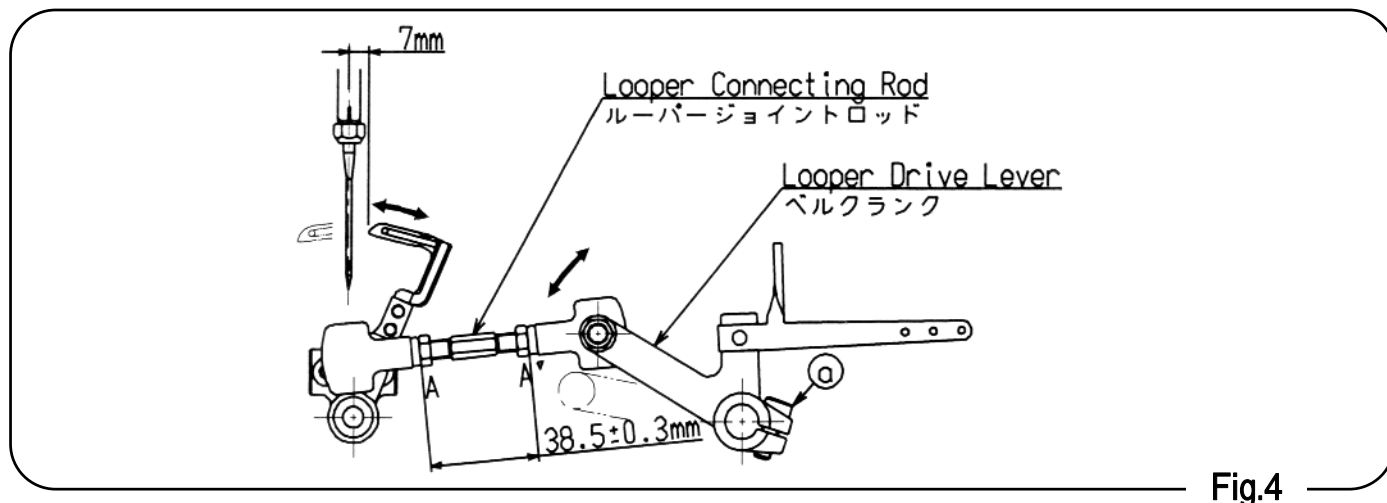
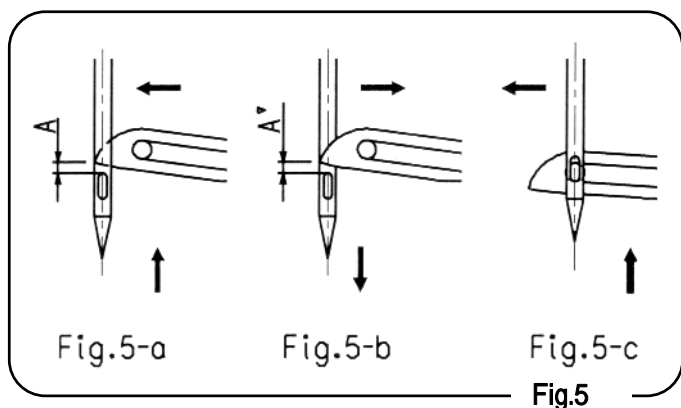
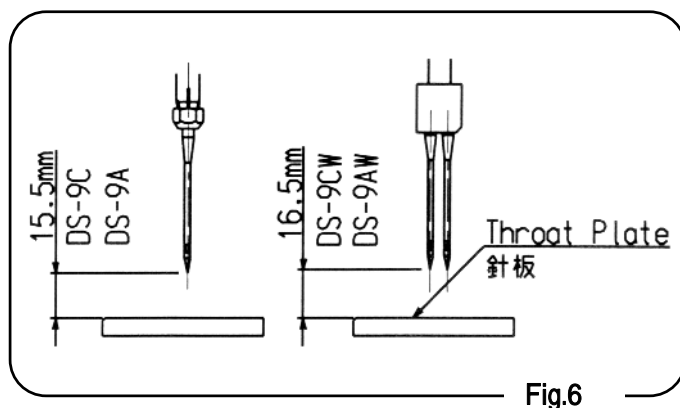

Fig.4
Fig.5
Fig.6
Presser foot pressure must be adjusted according to the material of bag and thickness. Check the reverse side of seams. The pressure is too strong if seams show a sign of scratches by feed dog teeth, or the actual stitch length is shorter than the preset feed rate of feed dog teeth. In this case, unscrew plate spring adjust screw(102171),Figure 4, after loosening nut (5/16N24301). Be sure to tighten the nut after the adjustment. If the pressure is too weak, seams do not form a straight line, or the stitch length is irregular. In this case, increase the pressure by screwing the plate spring adjust screw. Decrease the pressure when closing jute and other heavy bag material, and increase it when closing PP woven cloth and other light bag material. Your machine is adjusted for 3-ply kraft paper bags at the factory.
Turn the pulley in the forward direction and adjust the bell crank so that the end of the looper is 7mm away from the needle center when the needle is in the most retracted position, as shown in (Fig.4). The distance between the nut (outside) of Looper Connecting Rod must be $38.5 \pm 0.3\text{mm}$. (Fig.4)
Needle and looper movements are correctly timed if distance (A and A' of Fig.4) between Looper point and Needle hole when Looper points gets in line with left-side edge of Needle is the same as Looper passes Needle in forward and backward movements. $A=A' \pm 0.3\text{mm}$ is allowable. Adjust by lightly tapping the looper Drive Lever. Looper eyelet should overlap with lower part of oval hole of Needle, as shown in (Fig.5-c.) as looper goes forward. Adjustment can also be done by loosening the set screw of the needle bar connecting stud and adjusting the height of the needle bar so that the end of the needle is 15.5mm from the upper surface of the throat plate as shown in (Fig.6).
あらかじめボールジョイントロッドの、図の距離(A-A)を $38.5\text{mm} \pm 0.3\text{mm}$ 以内にして取り付けてください。(Fig.4) ルーパーが最も後退したとき針芯とルーパーの距離は 7mm です。
- ルーパーの先端と、針の穴の寸法が同じになるように調整します。ルーパーを前進・後退させ、ルーパーと針が交差するときに、ルーパーの先端から針穴の寸法が同じになるよう($A=A'$)に調整してください。(Fig.5-a・b) $A=A' \pm 0.3\text{mm}$ は許容範囲です。
- $A=A'$ の寸法を確認した後で、(Fig.5-c)ルーパー穴の下面と、針穴の下面が一致するように、針棒抱きのネジをゆるめ、針棒の高さを調整してください。
- あらかじめ、(Fig.6)の通り針が最もあがったとき、針と針板の距離が 15.5mm になるように、針棒の高さを定めると、調整が容易にできます。